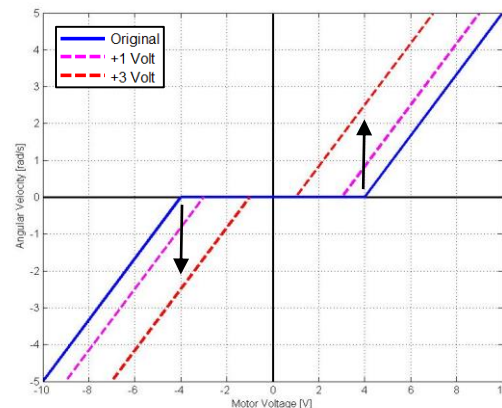

Figure 3: Biased dead-zone curves
- a) Draw the graph depicted in figure 3, should we add a bias of 4[v], and of 6[v].